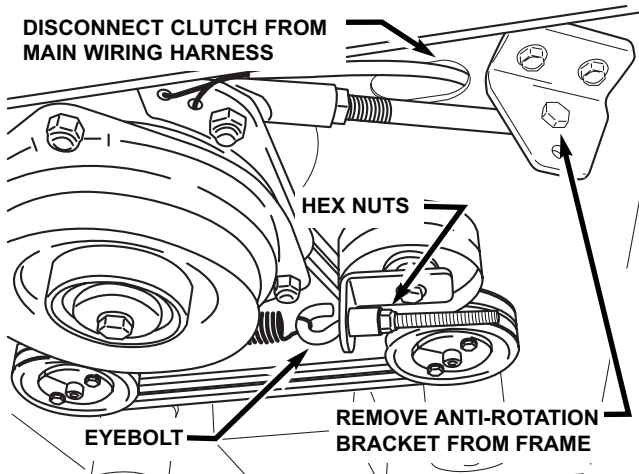

FIGURE 5.9
2. Turn hex nuts out to the end of eyebolt, reducing spring tension. See Figure 5.9.
3. Remove hardware securing anti-rotation bracket to frame. See Figure 5.9. NOTE: Do not remove anti-rotation bracket from clutch.
4. Disconnect the electric clutch from main wire harness. See Figure 5.9.
9. Run hex nuts all the way to the end of the threads on the eyebolt. See Figure 5.9.